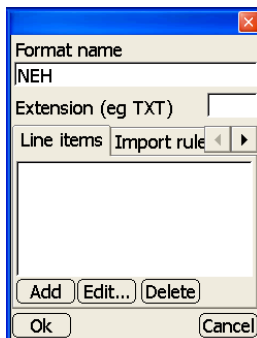

Figure 3-92. Conversion Format Parameters Dialog Box
- New – on the *Conversion formats* dialog box, press **New** to enter a conversion format and its respective information, then press **Ok** to save the information (Figure 3-92). See the following sections for information on the tabs.
- **Edit** – on the *Conversion formats* dialog box, press **Edit** to edit the selected format. See the “New” bullet on page 3-61 and Figure 3-92 for details.